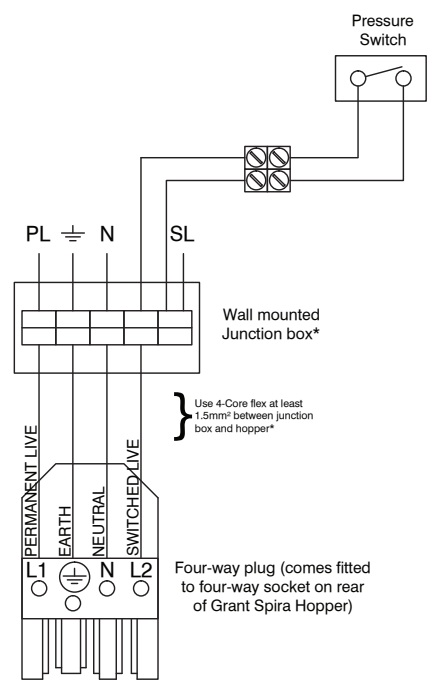

Figure 8-11: Connection of Grant low water pressure switch (product code: MPCBS62)
*See Figure 8-11 for wiring Pressure Switch Kit for use with plastic pipe in installation